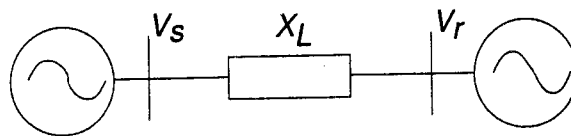

Figure 5.1: A two-area power system
- (c) Figure 5.1 shows a simple model of an interconnected power system. Voltages at the two ends are  $V_s \angle \delta$  pu and  $V_r \angle 0$  p.u. The impedance of the line is purely reactive in nature and is expressed as  $X_L$  p.u. The system is transferring power  $P$  with about 29% capacity margin  $\left( \frac{P_{max} - P}{P_{max}} \cdot 100\% \right)$ . If the line is series compensated with a capacitor  $X_C = kX_L$ . What degree of compensation  $k$  is needed to improve this margin to 40% for the same power transfer? [7]